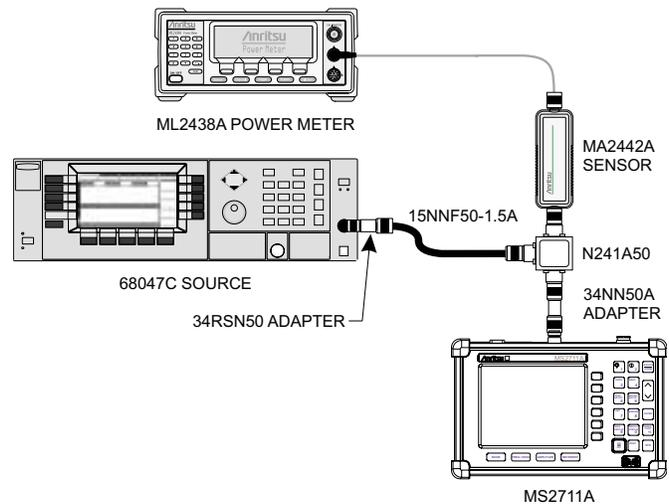

Figure 3. Measurement Accuracy Setup
2. Using the power splitter, coaxial cable and adapters, connect the Spectrum Analyzer to the signal source and the power sensor as shown in Figure 3.